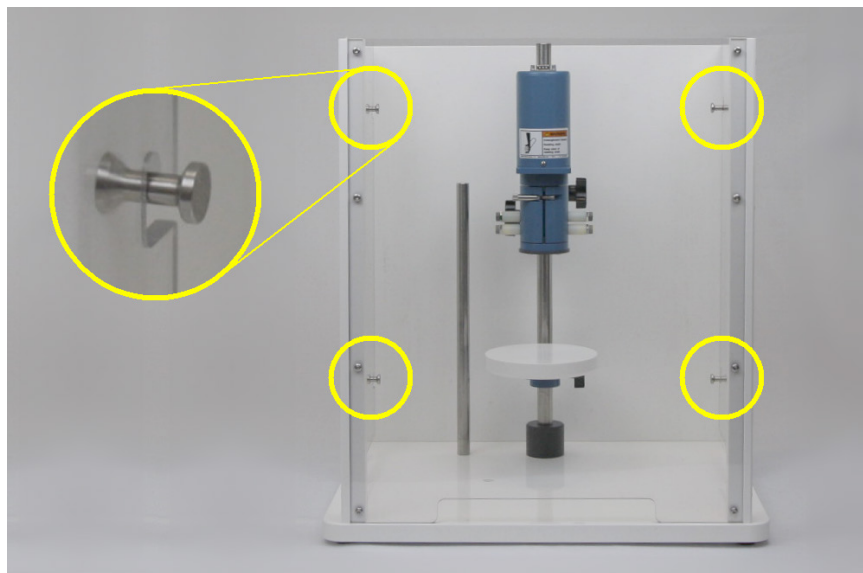

Figure 2-5. Secure Position of the MSR Rotator Enclosure
22. Secure the enclosure around the rotator motor unit (see Figure 2-5).